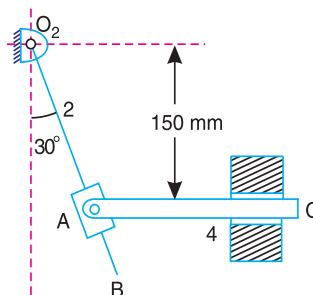

Fig. 8.46
11. The mechanism as shown in Fig 8.46 is a marine steering gear, called Rapson's slide. O_2B is the tiller and AC is the actuating rod. If the velocity of AC is 25 mm/min to the left, find the angular velocity and angular acceleration of the tiller. Either graphical or analytical technique may be used.